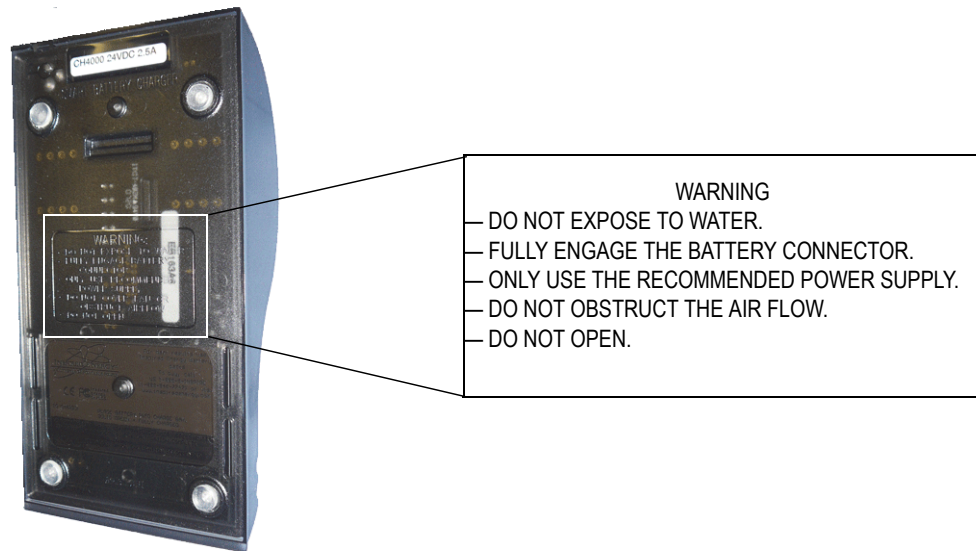

Figure 2-1 Warning messages on the optional battery charger
- Comply with the warning messages indicated on the underside of the optional battery charger (see Figure 2-1 on page 37). Similar precautions should be observed for the DELTA docking station (DDS).